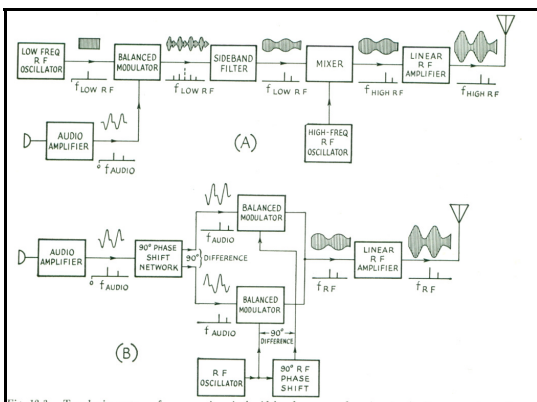
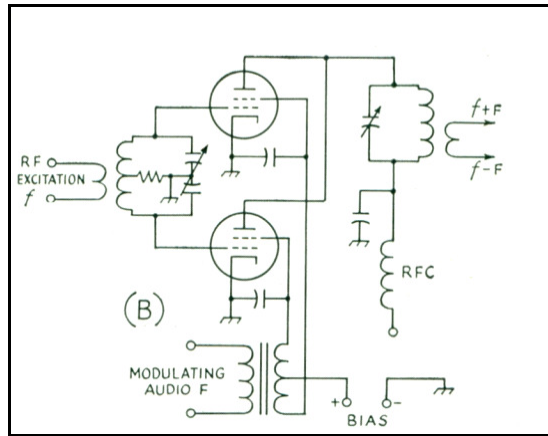

Figure 2, Filter and Phasing Methods for SSB
Figure 3, High Level Balanced Modulator
have three different implementations, the 20 KHz LC filter, the quartz crystal lattice filter and the Collins mechanical filter. Optimization of all three required design approaches and tools that did not exist in the 1950's and 60's as well as highly specialized fabrication equipment. Both methods of SSB generation still exist up to today but the phasing method is not competitive performance wise except in an all digital implementation. Figure 2 below shows the configuration in block diagram form of both the filter (A) and the phasing method (B). A vacuum tube implementation of the balanced modulator used with all SSB methods is shown in Figure 3. The two modulators required for the phasing method used four tubes with their plates connected to a single tank circuit to add the I & Q signals to form the SSB signal. For those hams who wanted to home brew the phasing exciter the specialized audio phase shift network could be purchased from James Millen Co. Malden, MA or Barker & Williamson Co. in Upper Darby, PA. Millen published the schematic for their network but the precision resistors and capacitors used were difficult to procure.